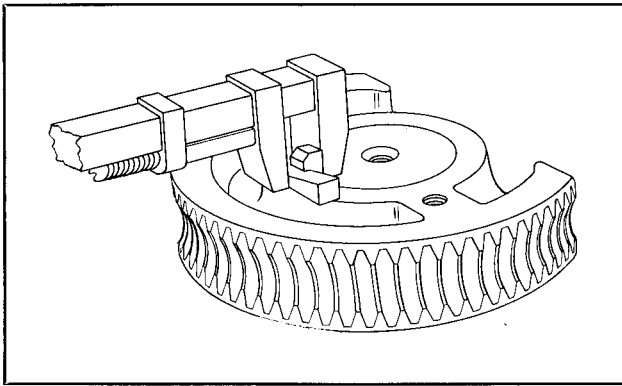

FIG. 12. Removing Gib Key
d. Remove the tapered gib key using a wedge and monkey wrench as shown in Fig. 12.